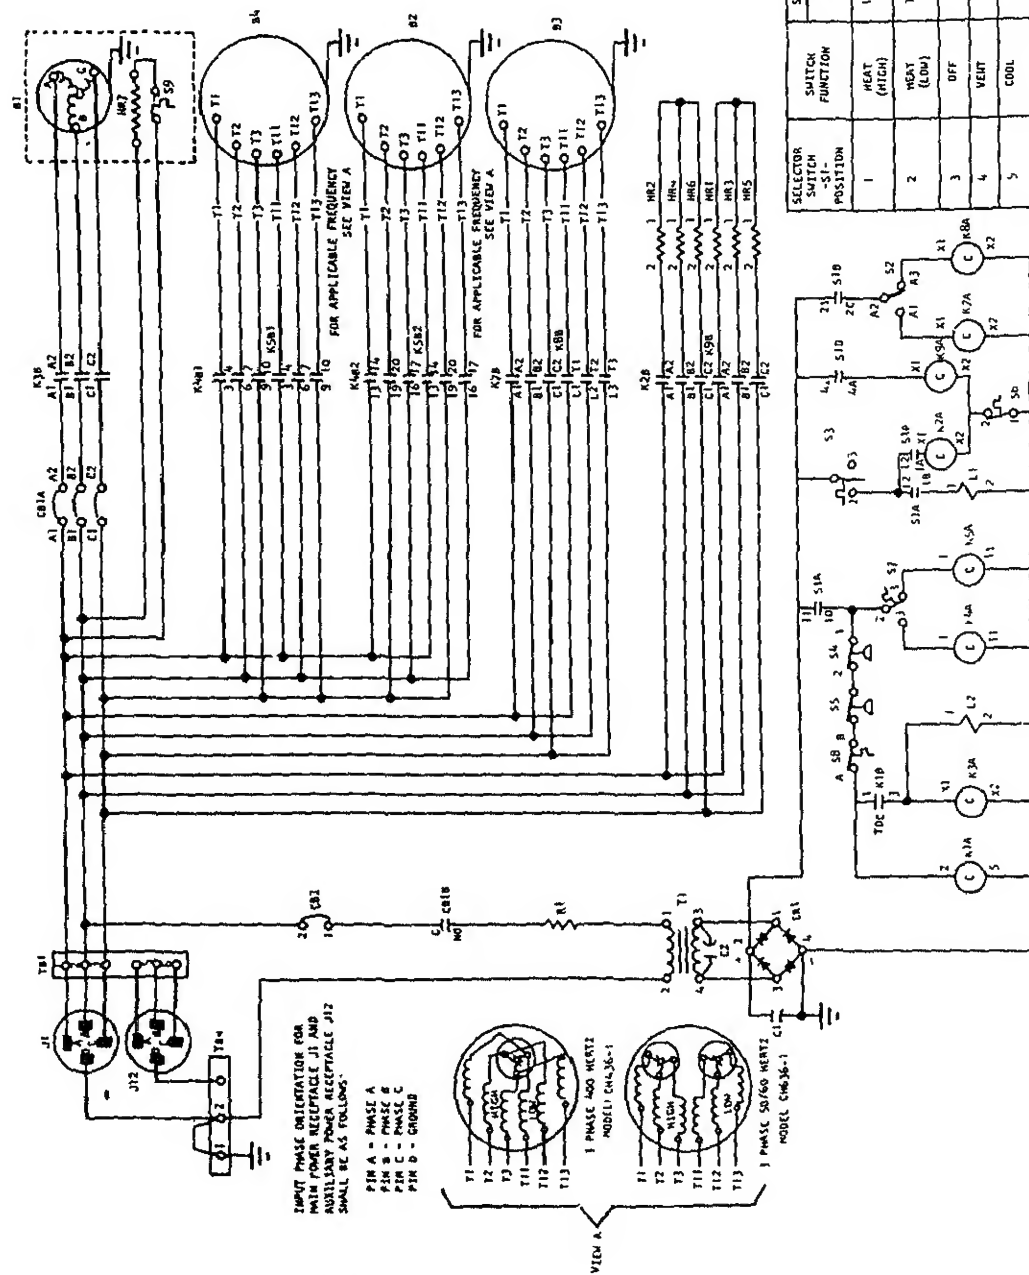
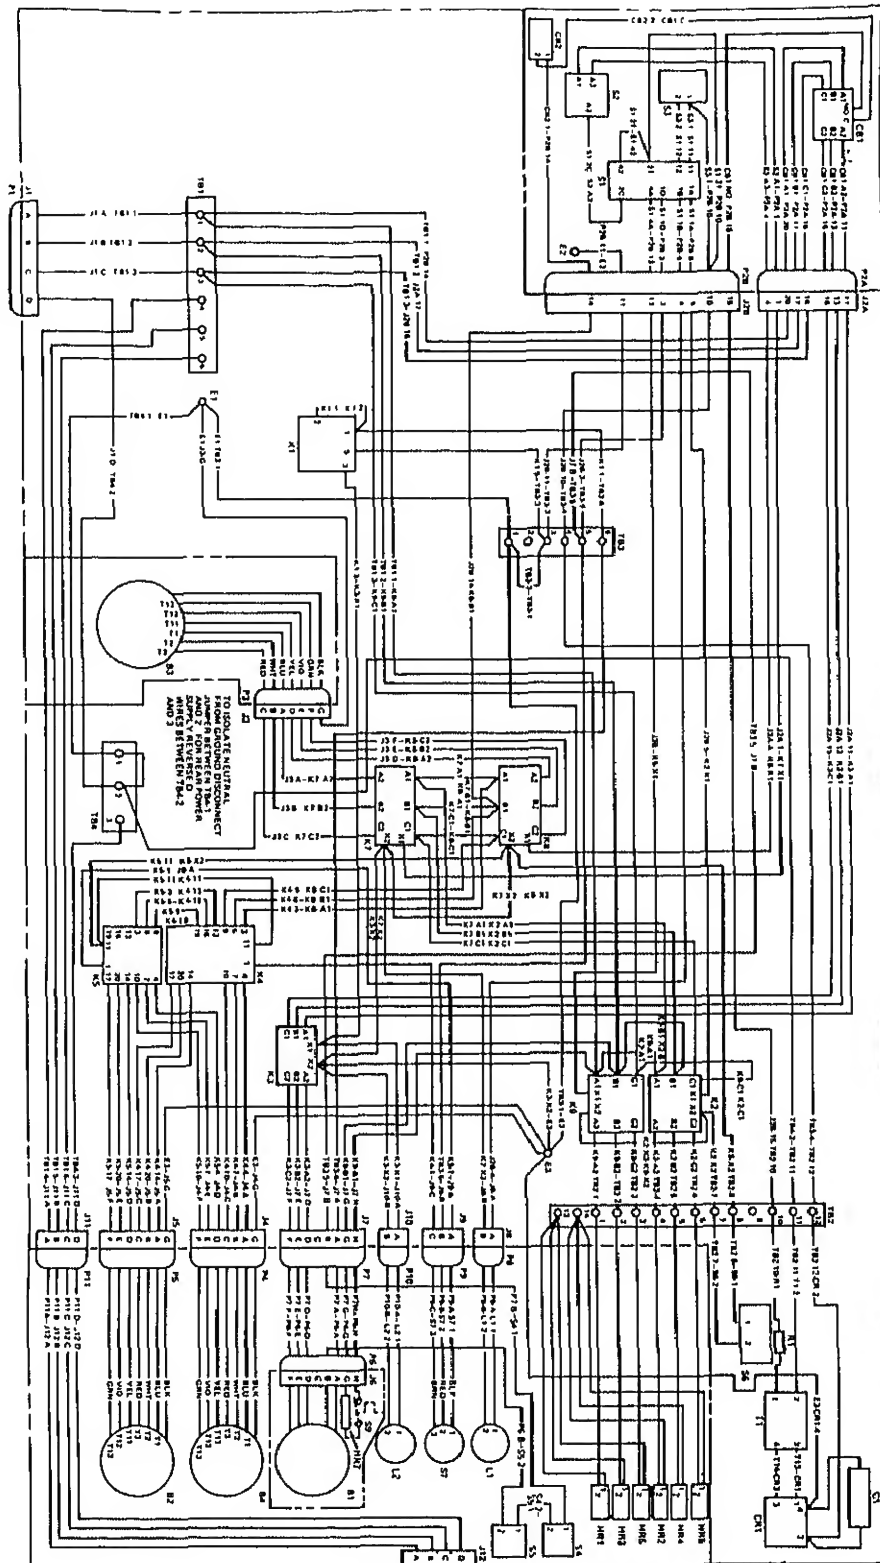

Figure 1-4. Control system schematic diagram
Figure 1-5. Wiring diagram
various controls available to the operator. Refer to figure 1-4 for the electrical schematic and figure 1-5 for the wiring diagram of the air conditioner electrical system.
Index, Figures 1-4 and 1-5.
Index, Figures 1-4 and 1-5. (CONT)
(1) Connect the MS3106R-24-22S power input connector plug furnished with the air conditioner to a suitable electrical power cable. Connect the cable to the proper electrical power source and install the plug end of cable to either the main power receptacle or the alternate power receptacle. If alternate power receptacle J12 is used, refer to wiring diagram (figure 1-5) and change wire lead connection at TB1.